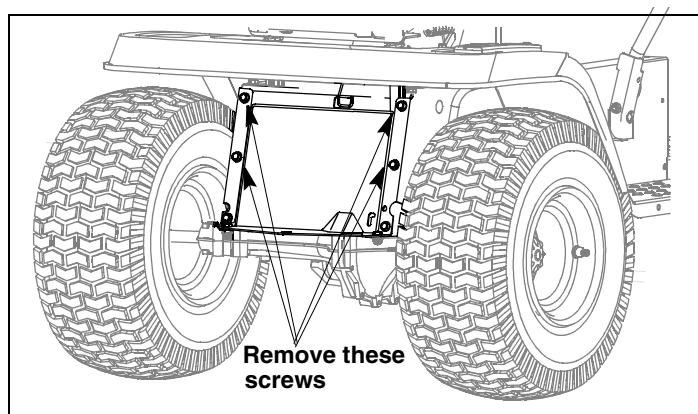

Figure 2
- Remove the top four self-tapping screws from the rear of the lawn tractor. See Figure 2.
- Secure the RH Catcher Support Bracket to the tractor frame with two self-tapping screws removed earlier. Refer to Figure 2.
- Refer to Figure 2 of your Owner's Manual that came with the grass bagger. Locate the Bracket Assembly.